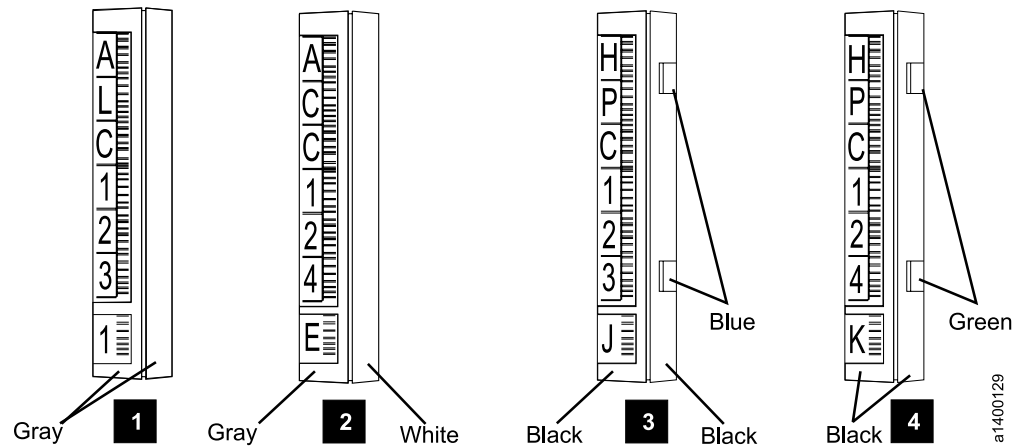

Figure 18. Cartridge System Tape Identification
Figure 18 on page 21 shows the Cartridge System Tape **1**, the Enhanced Capacity Cartridge System Tape **2**, the High Performance Cartridge Tape **3**, and the Extended High Performance Cartridge Tape **4**. Note the blue inserts of the High Performance Cartridge Tape and the green inserts of the Extended High Performance Cartridge Tape. Note also the placement of the media-type label (either 1, E, J, or K).
1. If the 3494 has both 3490E and 3590 drives, all cartridges should have a label in the seventh character position (see Figure 18 on page 21).